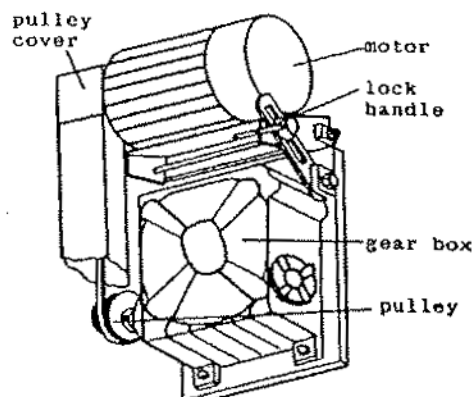

Fig. 1 Speed Swap Configuration
2. Loosen the lock handle, as shown in Fig. 1.